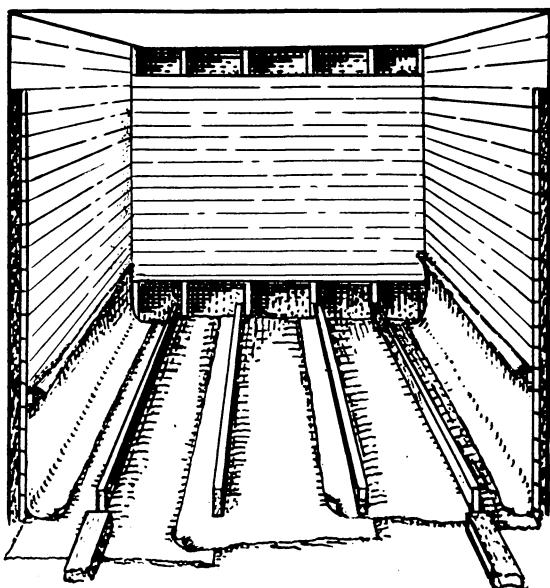

Fig. 21.—False floor stringers in place in well-constructed refrigerator car.
3. Lay four pieces of 2 by 4 inch studding on the floor in each end of the car for stringers, the 2-inch side against the floor. (Fig. 21.) Do not nail these to the floor.¹ The stringers should be evenly spaced parallel to the sides of the car with one end tight against the ice bunker bulkheads. The two outside stringers at each end must be in the same straight line.